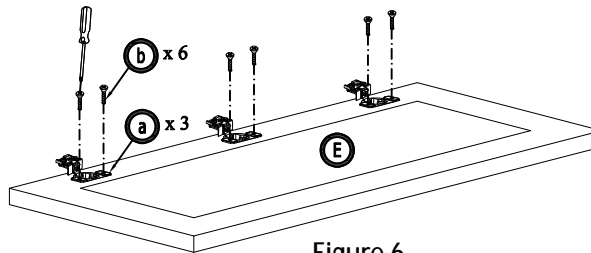

Figure 6
6. Assemble 3 hinges into one door by screw driver and 6 screw 7/15" (Figure 6)